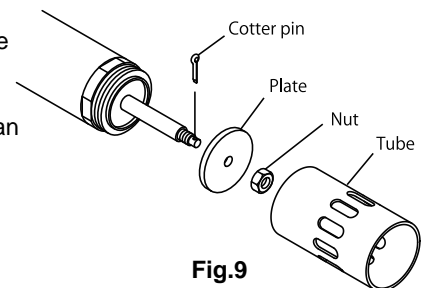

Fig.9
- 4) Pull out the split pin that fixes the plate and unscrew the nut. The plate can be removed. (Fig.9)